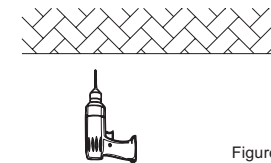

Figure 2
2. Drill holes on the ceiling. Remark: the pitch of hole should be subject to product requirements, the aperture be subject to the size of chosen expansion screw. (Figure 2)